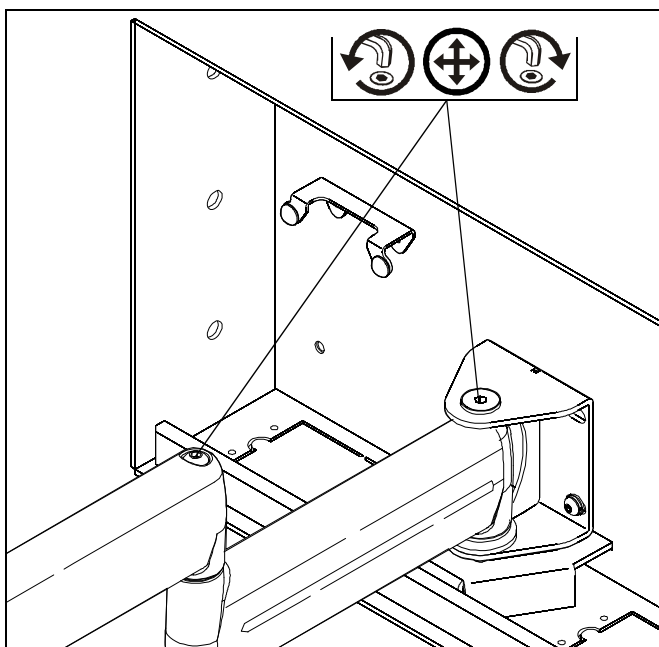

Figure 17
1. Using 3/16" hex key (U), slightly loosen or tighten the adjustment screw(s) as necessary (See Figure 17).